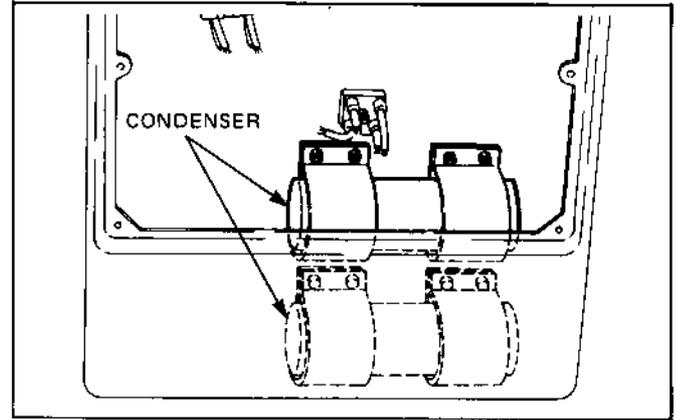

Fig. 9-8
- If an instrument (QC-meter or C-meter) for measuring capacity of condenser is available, check the capacity of condenser. (See Fig.9-8.)